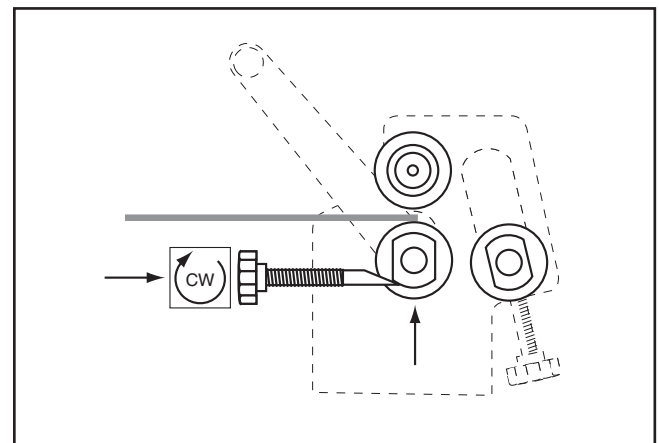

Figure 18. Raising bottom roller.
- Place the workpiece between the top and bottom rollers, as shown in **Figure 18**. Turn the thickness adjust knobs to raise the bottom roller until the workpiece is held snug between the top and bottom rollers. Be sure to turn the thickness adjust knobs equal amounts.